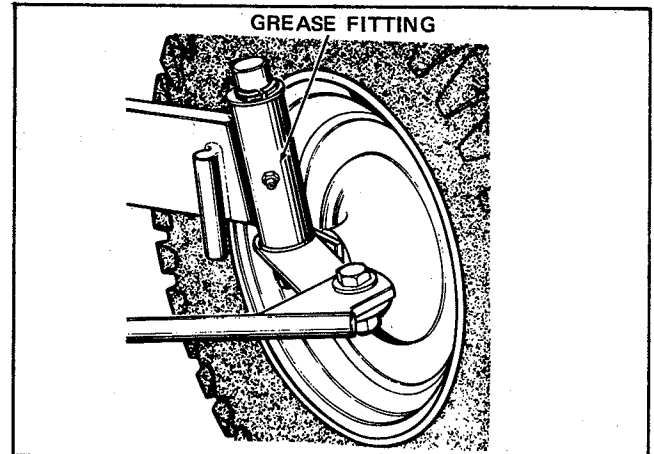

Figure 4
- (2) Front Spindles - Figure 4